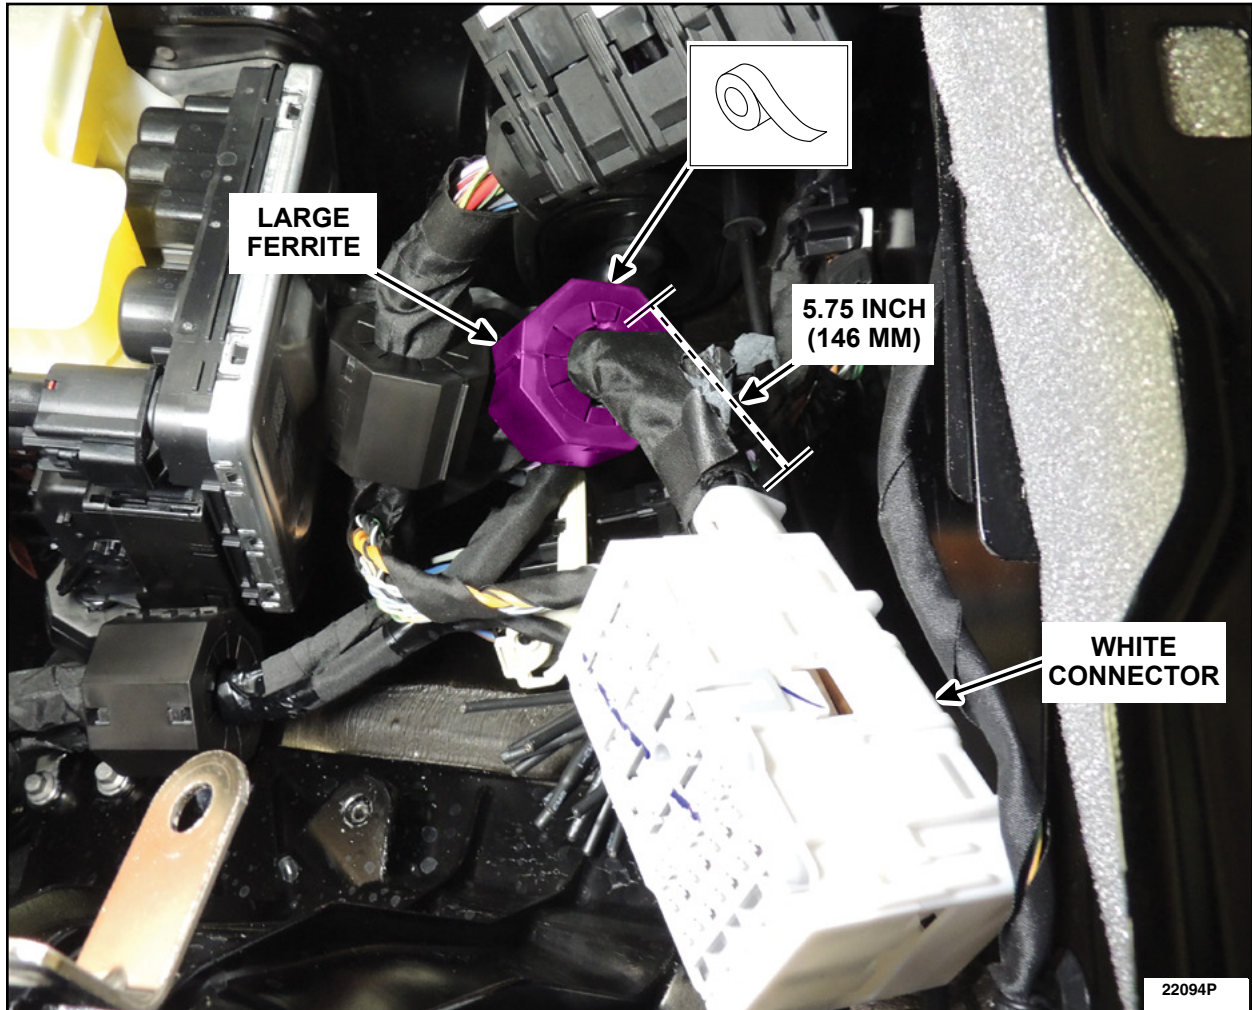

FIGURE 17
23. Measure 5.75 inches (146 MM) from the back of the white connector. Install a **LARGE** ferrite (item A) to the wiring harness in the designated location. See Figure 17. Apply 3 wraps of Coroplast® tape around the ferrite to secure it closed.